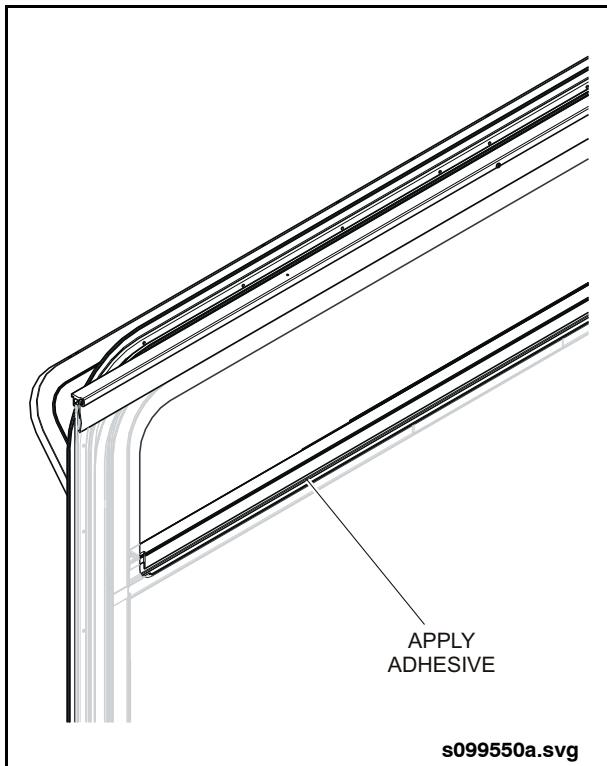

Fig. 14-22: Transom & Glass Joint
2. Wipe down the joint between the transom and glass with isopropyl alcohol. See "Fig. 14-22: Transom & Glass Joint" on page 27.
6. Remove masking tape to reveal sealed joint. See "Fig. 14-22: Transom & Glass Joint" on page 27.